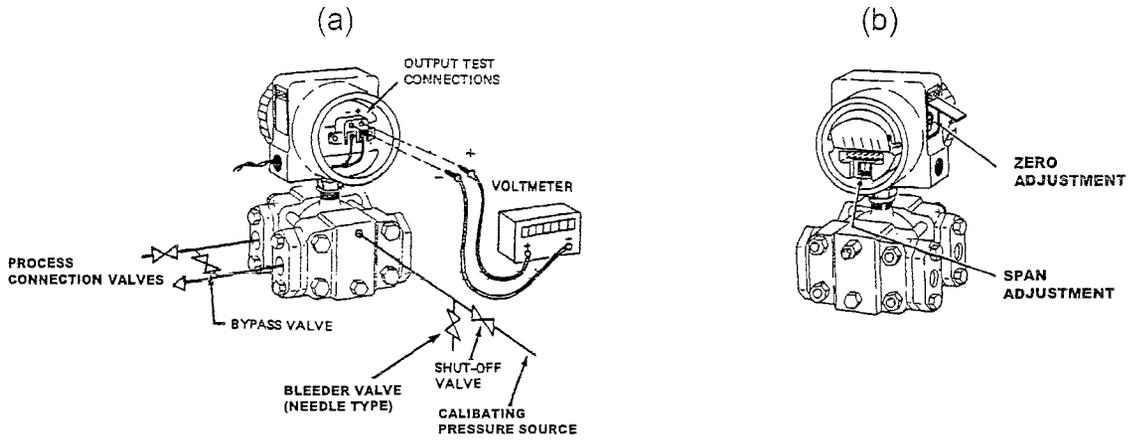

Figure 1.
5. Set calibrating pressure equal to lower range value. Output should be 1.000 V. If necessary adjust zero screw to get correct output. See Figure 1 (b).
6. Set calibrating pressure equal to upper range value. Output should be 5.000 V. If necessary, adjust span potentiometer to get correct output. See Figure 1 (b).